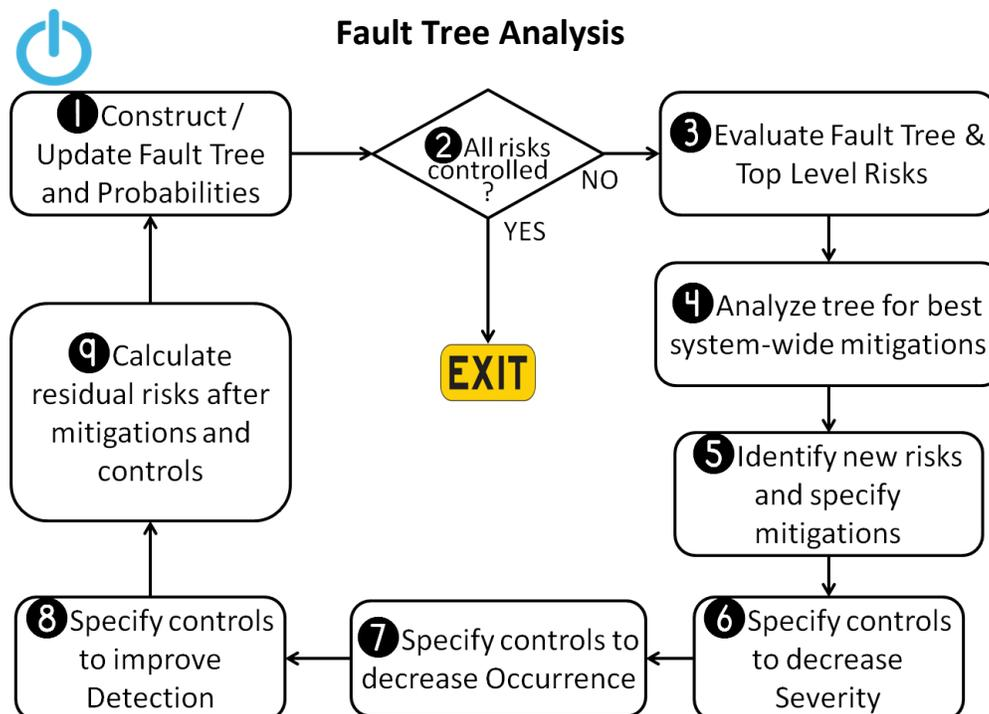

Figure 5 - Fault Tree Analysis with Detection
❷ FAULT TREE ANALYSIS
Fault Tree Analysis starts with the tree ❶. The first iteration will begin construction of the tree. Subsequent iterations will update and manage it. ❷ The goal here (Figure 5) is to evaluate the probabilities of all risk(s) and determine if they have all been controlled or their effects limited given the tree risk structure. If so, we EXIT. If not, ❸ top level faults are evaluated. Following that, ❹ system-wide structural mitigations, restructuring, reformulations are then investigated. FTA can see and make changes that FMEA cannot because it can see new perspectives, view fresh angles, and exercise new freedoms in its room to maneuver and innovate that FMEA does not have. From there, ❺ identify new risks and specify more mitigations for all the changes.